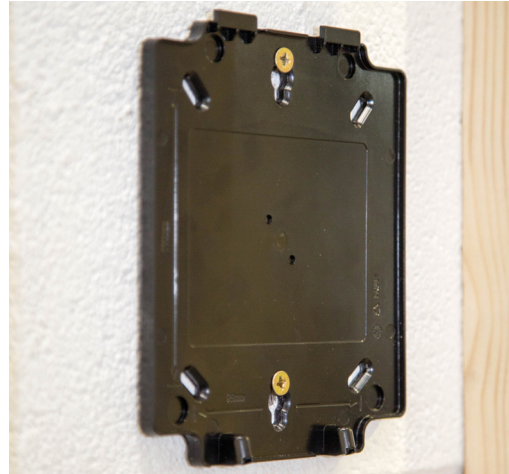

fig.4
- between 1500mm from the floor and 300mm down from the roof/ceiling is recommended. Drill and then secure in place (fig.4).